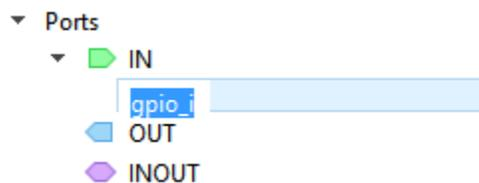

Figure 3.18. Rename an IN Port
- **NewPort1** is created. Double click NewPort1 to rename the port (Figure 3.18).